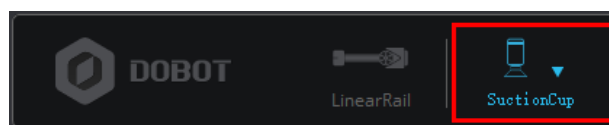

Figure 5.100 Choose SuctionCup as the end-effector
Step 2 Choose **SuctionCup** as the end-effector on the **DobotStudio** page, as shown in Figure 5.100.